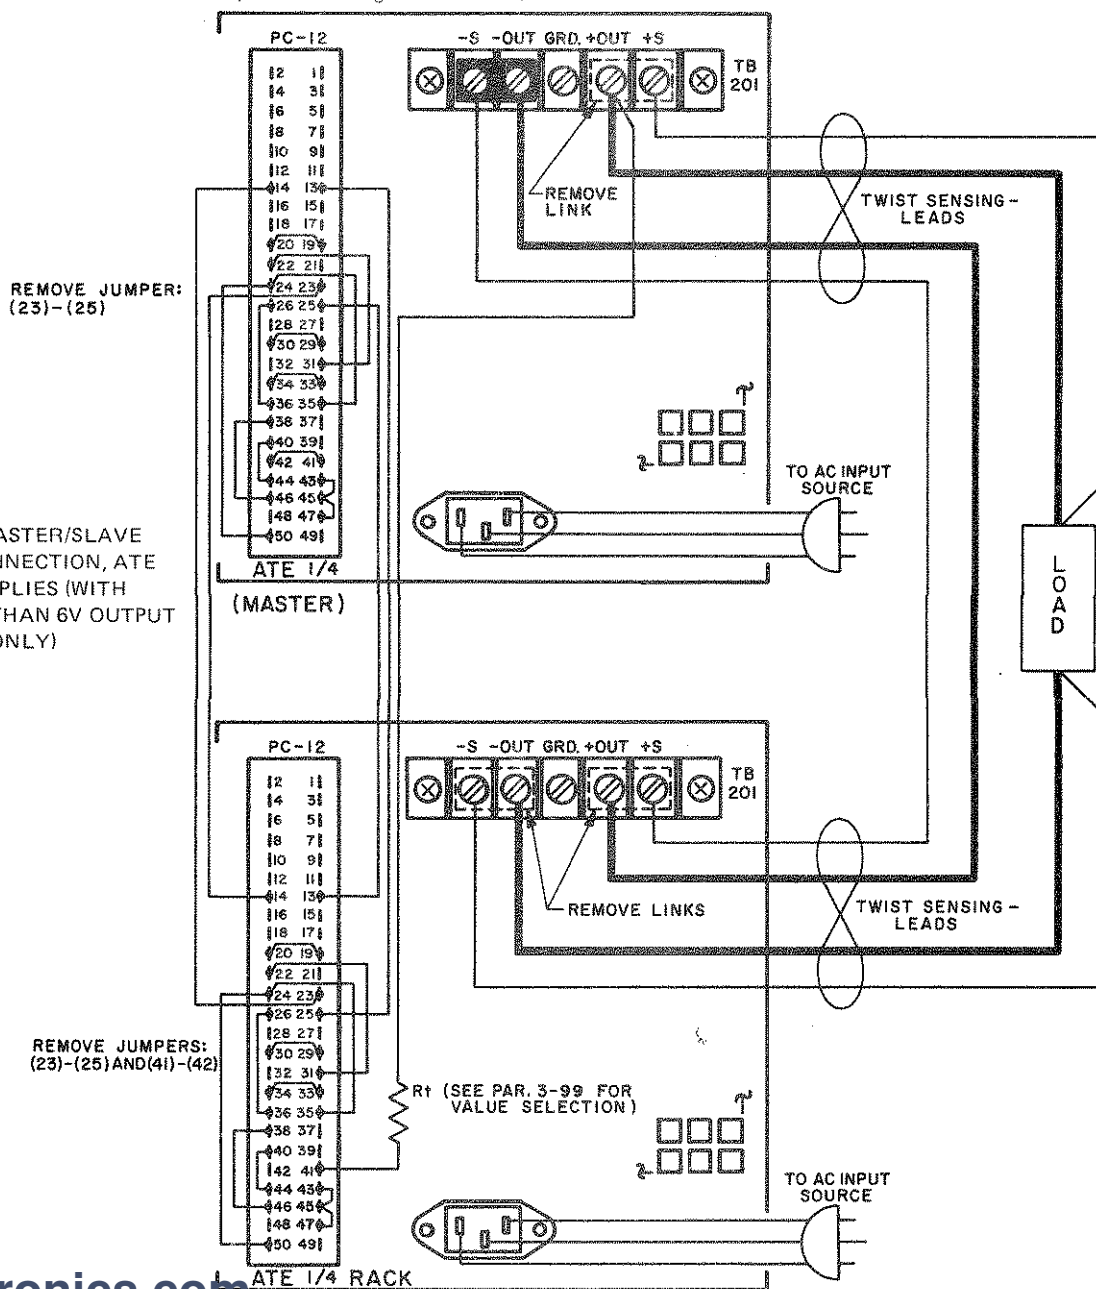

FIG. 3-22 MASTER/SLAVE SERIES CONNECTION, ATE POWER SUPPLIES (WITH GREATER THAN 6V OUTPUT VOLTAGE ONLY)
$R_t = \frac{55V}{1\text{mA}} - 10\text{K} = 45\text{K ohms}$, and connecting the system as shown in FIG. 3-22 will produce the desired result.
- 3) Interconnect power supplies as shown in FIG. 3-22. Note: Only one SLAVE unit is shown, but more can be added. Turn MASTER supply VOLTAGE CONTROL to its maximum counterclockwise position.